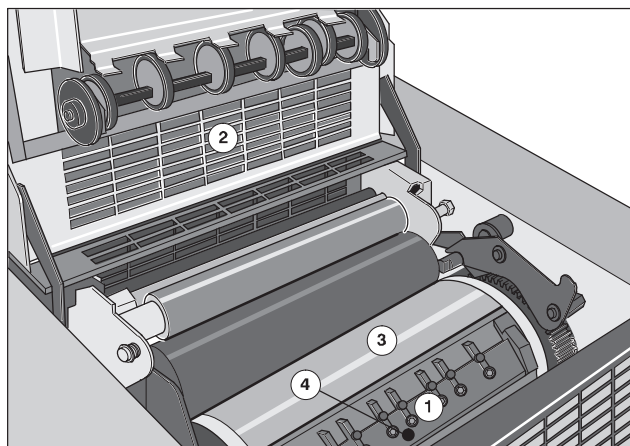

Fig. 11 Manual plate ejection
1. Open guard (Fig. 11/2) above the plate cylinder PU 1 (Fig. 11/3).
2. Position the press by inching or turning by hand so that the rear clamping bar (Fig. 11/1) is accessible.
3. Insert Allen key in the borehole in the center of the rear clamping bar (Fig. 11/4).